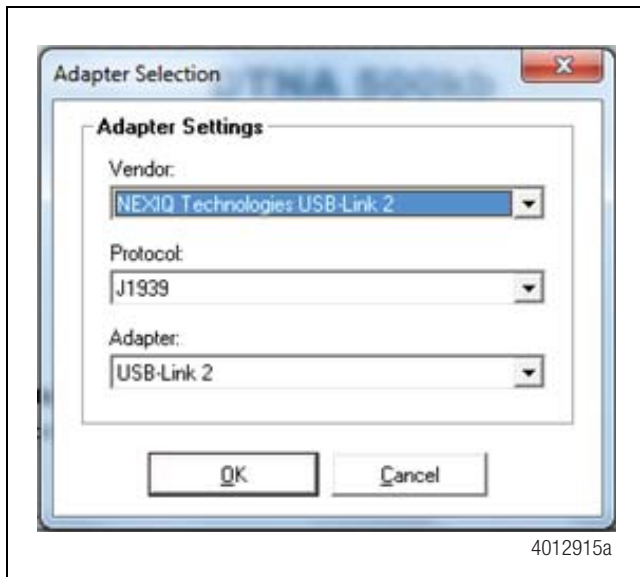

Figure 5
- C. Select the correct Vendor, Protocol and Adapter being used from the list and select "OK". Figure 5.